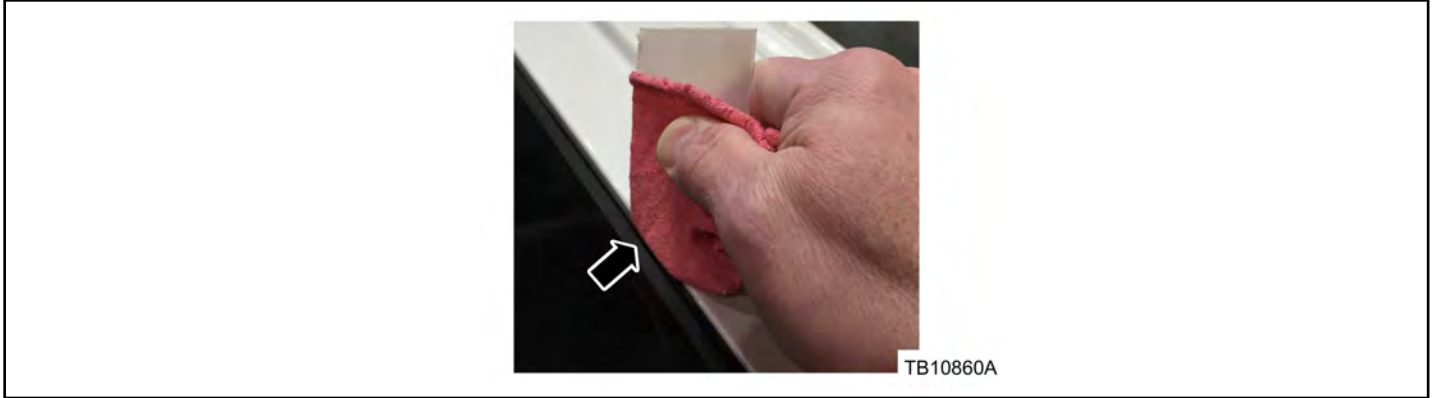

Figure 3 - Article 16-0020
7. Apply isopropyl alcohol onto a clean folded shop rag and insert it between the rear fixed glass panel seal and the roof opening sheet metal. (Figure 3)